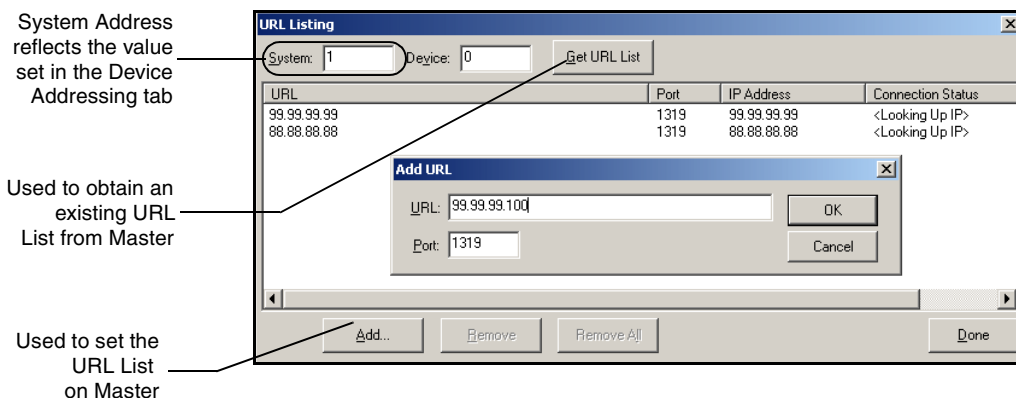

FIG. 42 URL List dialog
- Select **Diagnostics > URL Listing** from the Main menu (FIG. 42).